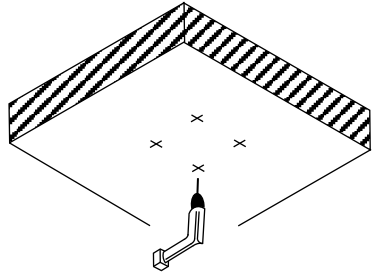

Fig 5
3. Drill holes in the ceiling for the screws (Fig 5).